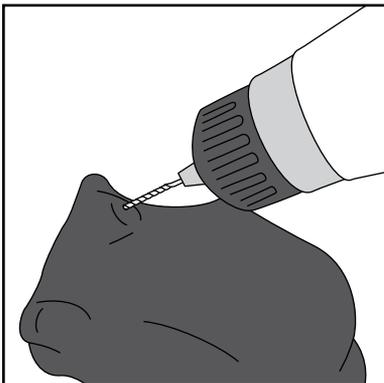
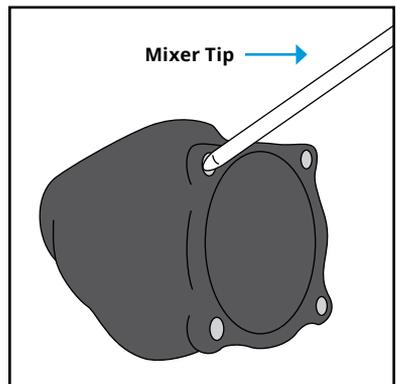

Figure 8
Figure 9
15. When using glue-in socket attachment versions, use coarse sandpaper to abraid one end of the PEEK rods approximately ½ in. (13 mm) from the end. This will ensure proper adhesion to the socket. Drill ⅛ in. (2 mm) holes at the proximal ends of the cavities created by the fabrication dummies (see Figure 8). This allows trapped air and excess adhesive to escape when the PEEK rods are inserted. Insert the mixer tip of the adhesive cartridge into each of the cavities created by the fabrication dummies, and fill each cavity ⅓ full with urethane adhesive (see Figure 9). Insert a PEEK rod into each of the cavities created by the elastomer fabrication dummies and ensure they are fully seated in the cavities. Then, twist each of the rods 180° to ensure the ends are fully coated with adhesive. Hold rods in place until the adhesive is set (approximately 2 minutes).